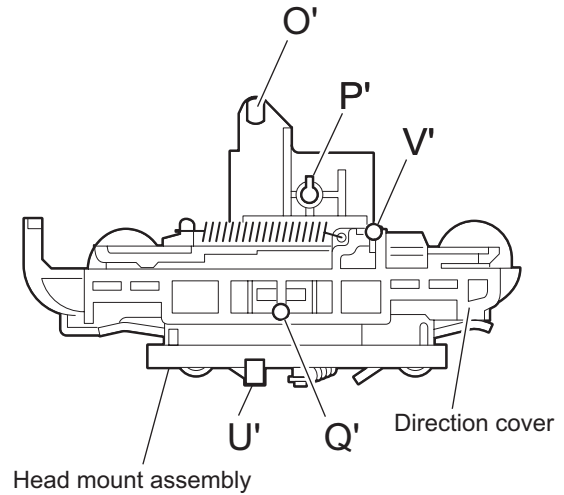

Fig.11
3.2.6 Reattaching the Play/ Record & Clear head (See Fig.11~13)
(1) Reattaching the head mount assembly.
- b) Fit the bosses **O'**, **P'**, **Q'**, **U'** and **V'** on the head mount assembly to the holes **P** and **V**, the slots **O**, **U** and **Q** of the mechanism sub assembly (See Fig.11 to 13).